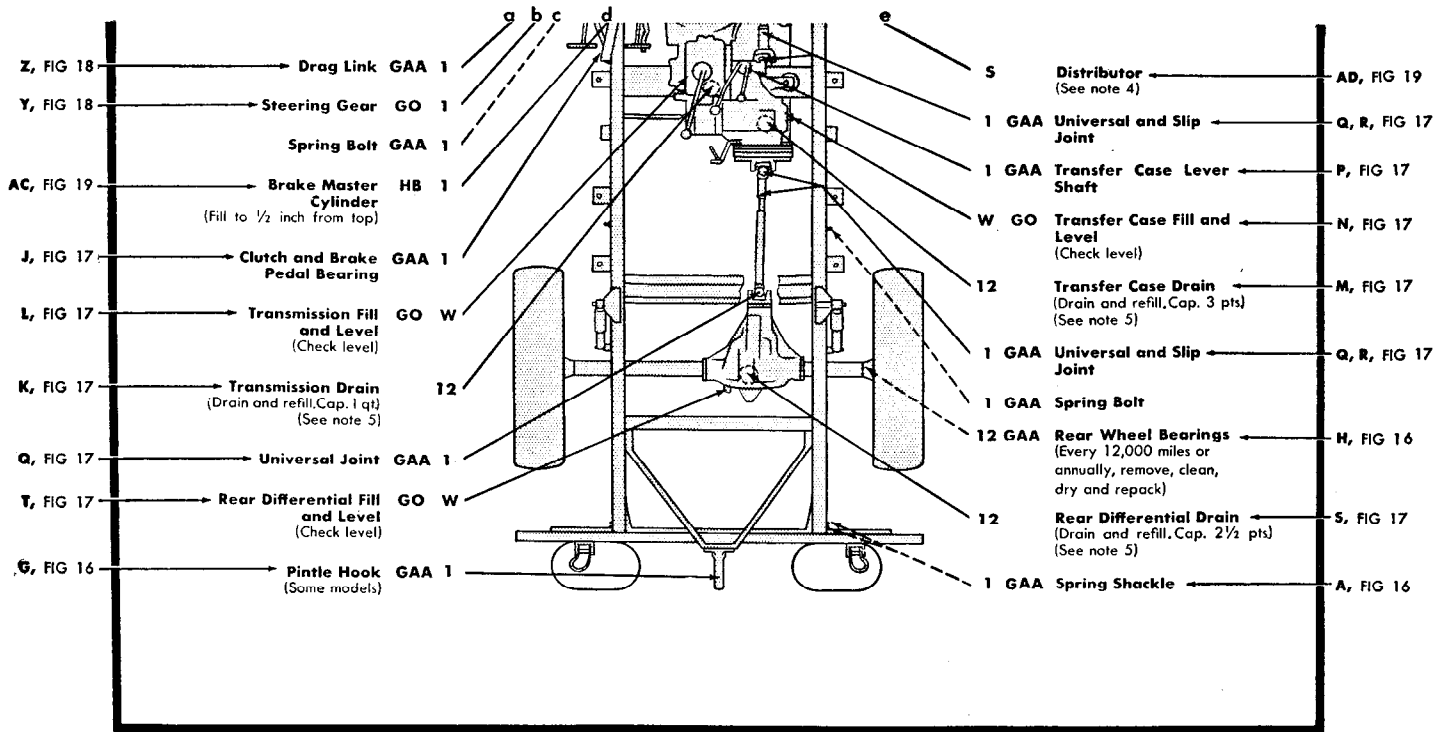

Figure 14. Lubrication order.
Lubrication Order 9-8012 (figs. 14 and 15) prescribes cleaning and lubricating procedures as to locations, intervals, and proper materials for this vehicle. The official lubrication order will be carried with the vehicle at all times. In the event the vehicle is received without a copy, the using organization shall immediately requisition one. See DA Pam 310-4 for lubrication order of current date. Lubrication which is to be performed by ordnance maintenance personnel is listed on the lubrication order in the "NOTES" (fig. 15), and in a few instances are contained in the pertinent section.
- (1) Lubrication points are shown in figures 16 through 19 and are referenced to the lubrication order. Clean fittings and surrounding surfaces as prescribed in lubrication general notes (fig. 14).
- (2) A $\frac{3}{4}$ -inch red circle should be painted around all lubricating fittings, oil can points, and refill plug holes.
- (3) Clean and lubricate unsealed bearings as in (a), (b), and (c) below.
a. General. Any special cleaning instructions required for specific mechanisms or parts are contained in the pertinent section. General cleaning instructions are as shown in (1) through (5) below.
- (1) Nameplates, caution plates, and instruction plates made of steel rust very rapidly. When they are found to be in a rusty condition, they should be thoroughly cleaned and heavily coated with an application of lacquer.
- (2) Use dry-cleaning solvent or volatile mineral spirits to clean or wash grease or oil from all parts of the vehicle.
- (3) A solution of one part grease-cleaning compound to four parts of dry-cleaning solvent or volatile mineral spirits may be used for dissolving grease and oil from engine blocks, chassis, and other parts. Use cold water to rinse off any solution which remains after cleaning.
- (4) After the parts are cleaned, rinse and dry them thoroughly. Apply a light grade of oil to all polished metal surfaces to prevent rusting.
- (5) Before installing new parts, remove any preservative materials, such as rust-preventive compound, protective grease, etc.; prepare parts as required (oil seals, etc.); and for those parts requiring lubrication, apply the lubricant prescribed in the lubrication order (par. 66 and figs. 14 and 15).